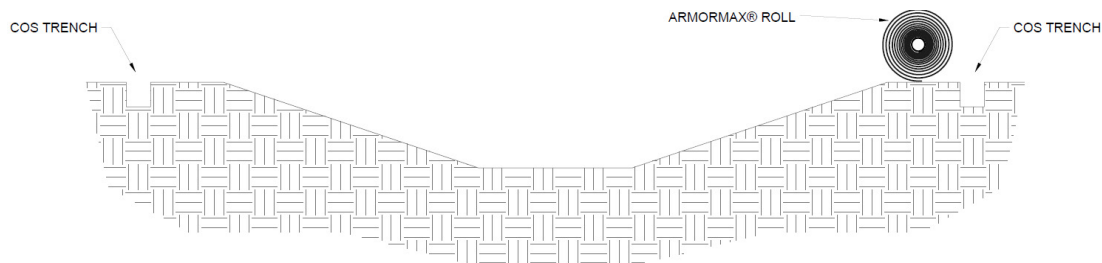

Figure 7: Crest of Slope (COS) Trench Alignment
6. Place the next HPTRM panel by laying the roll so that the roll end points towards the COS trench (Figure 7), with a 3 in (75 mm) overlap created at adjacent panel edge locations. Ensure that adjacent panel edges maintain a minimum 3 in (75 mm) overlap during **PROPEX** Armormax laydown (Figure 12).